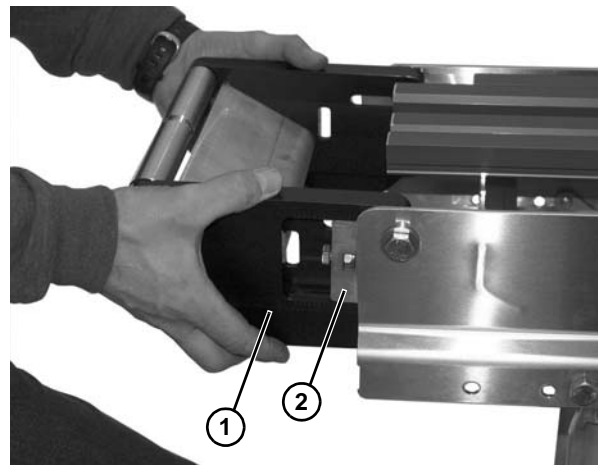

Figure 49
- Slide the nose bar idler (Figure 49, item 1) off the pivot tail blocks (Figure 49, item 2).